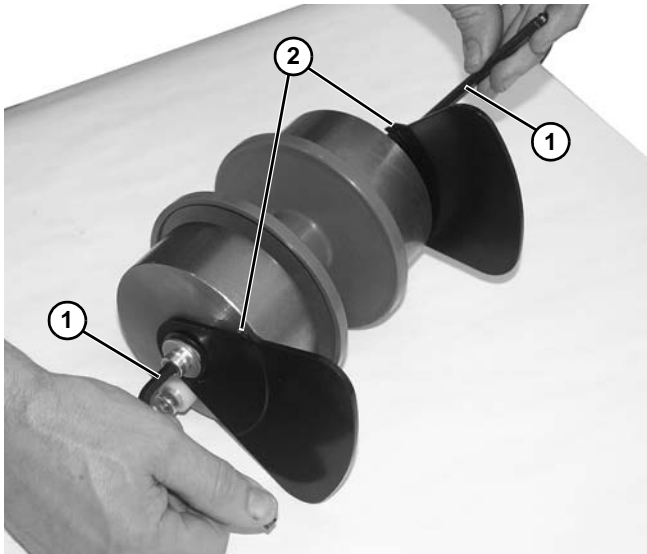

Figure 157
10. Install components reverse of removal, using two hex wrenches (**Figure 157, item 1**) on each side of idler assembly to tighten components.
*Be certain that notches (**Figure 157, item 2**) on both plates are on top side, and spacers are in same orientation, as shown, before tightening components.*